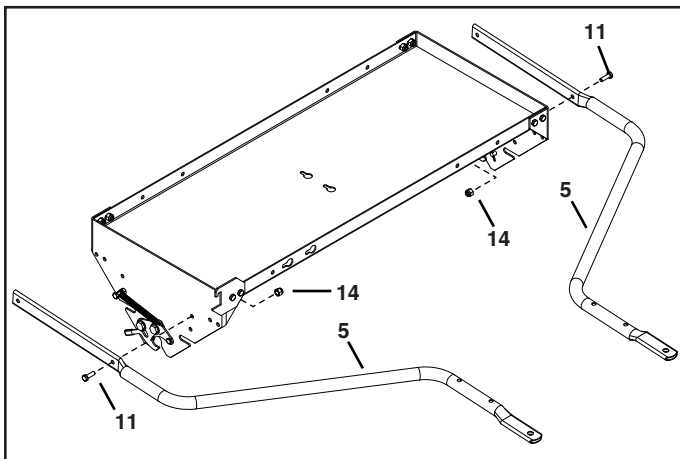

FIGURE 2
6. Attach the hitch tubes (5) to the third hole from the front of the tray assembly using two 5/16 x 1" hex bolts (11) and 5/16" nylock nuts (14). **Do not tighten yet.** See figure 2.
10. Attach the lift tube assembly (2) and the hitch tube (5) to the rear hole on the left side of the tray using a 5/16 x 1-1/2" hex bolt (10) and 5/16" nylock nut (14). **Tighten** the nut then loosen 1/2 turn.
11. **Tighten** the nuts and bolts shown in figures 2 and 3.